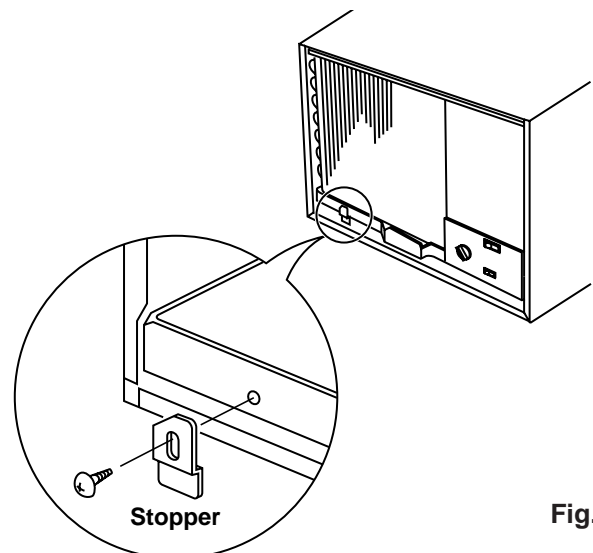

Fig. 9
- (3) Remove the stopper screw attached to the base pan of the unit (Fig. 9)